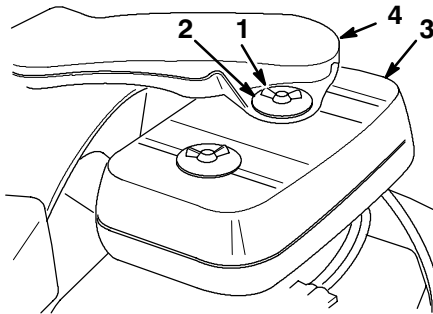

Figure 26
3. Clean around the air cleaner to prevent dirt from getting into the engine and causing damage (Fig. 26).
4. Remove the wing bolts, washers, air intake duct, and air cleaner cover (Fig. 26).
2. Install the wing bolts, washers, air intake duct, and air cleaner cover removed previously (Fig. 26).